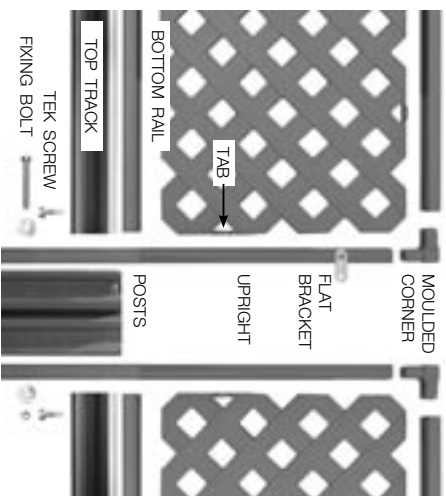

Fig. 3
1. Unpack and lay the fence extensions on a clean flat surface. Remove the BOTTOM fence extension rail and the uprights (attached to the lattice with cable ties) and set aside. Insert a plastic moulded corner into each end of the TOP fence extension rail as per Fig. 3 and tap in gently.
5. Firmly attach the uprights to the post using the supplied bolts, nuts and washers as shown in Fig. 3 and 9b.